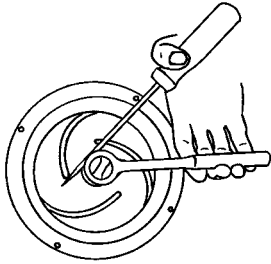

Figure 2 - Impeller Removal
Refer to Figures 2 and 3.
**NOTE:** To prevent motor shaft from turning, wedge a screwdriver between impeller vane and locknut (see Figure 2).